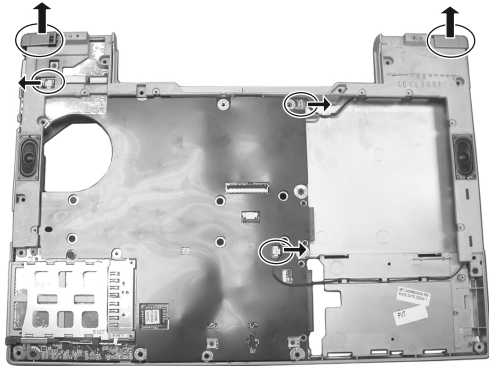

Figure 2-27 Disconnect the cables and separate the rear covers
4. Disconnect the three speakers' cables from the system board and separate the (R&L) rear covers. (Figure 2-27)